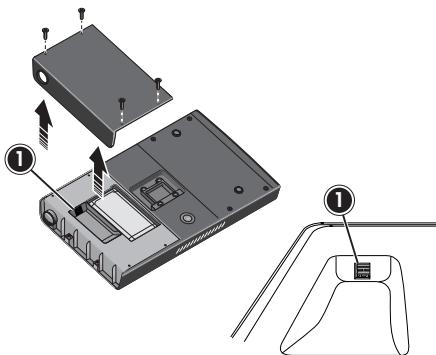

Fig. 32: USB port
3. ➤ Insert the miha bodytec USB flash drive with the update file into the USB port on the underside of the device (Fig. 32/1).